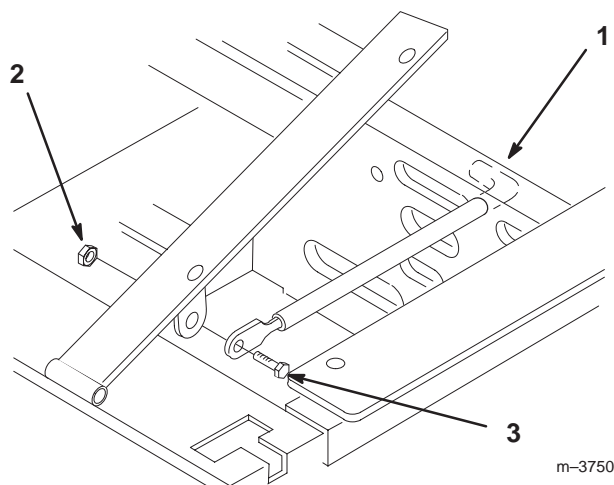

Figure 3
1. Tilt seat up. Remove locknut (5/16 inch) from bolt attaching seat retaining rod to seat frame (Fig. 3).
2. Remove retaining rod from seat and insert the **L** shaped end of the rod into the hole directly above the left-side hydraulic pump (Fig. 3).
3. Place the seat retaining rod to the outside of the mounting tab of the seat frame and secure with one bolt (5/16 x 1 inch) and locknut (5/16 in.) (Fig. 3).